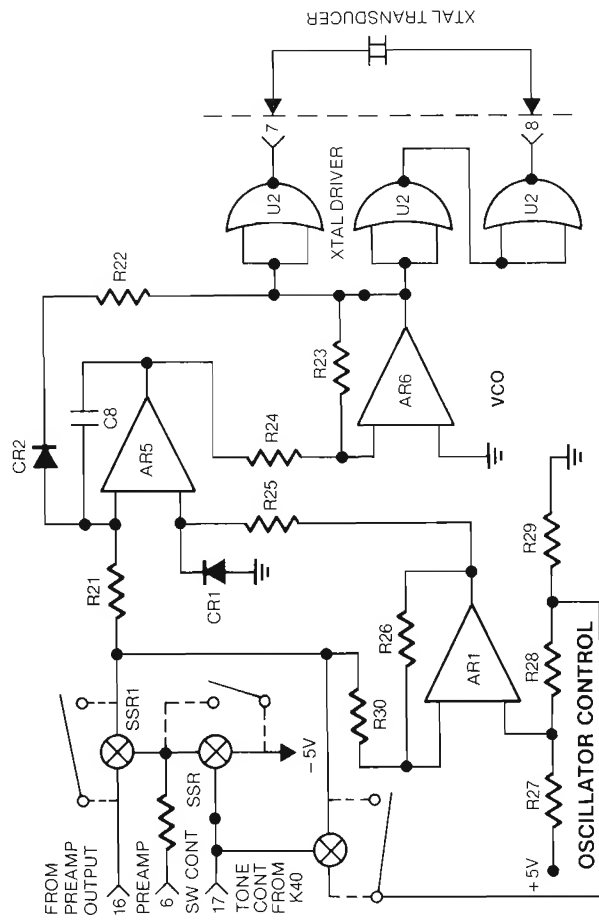

Figure 3-5. Simplified Schematic Diagram - Continuity
- 3-31. The circuit consists of a VCO, AR5 and AR6 (figure 3-5), which drives a transducer thru U2. AR1 and its associated resistors form a control circuit for the oscillator. When switching meter functions or ranges, a control signal appears at terminal 17, turns on solid-state relay 2 (SSR2) so that a voltage divider formed by R28 and R29 supplies a voltage to R21 and R30. AR1 is turned on and a 1 kHz beep is emitted, indicating a change in meter operation.